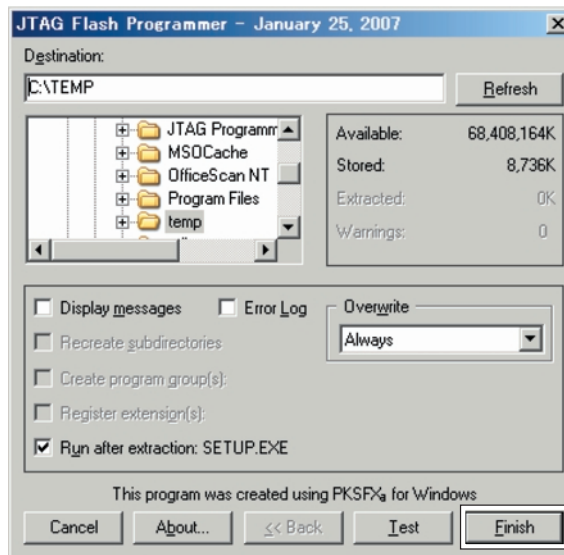

Fig. 1 Install screen
- 3) Double click the StandaloneJTAG_1_20, and the following install screen appears. (Fig. 1)